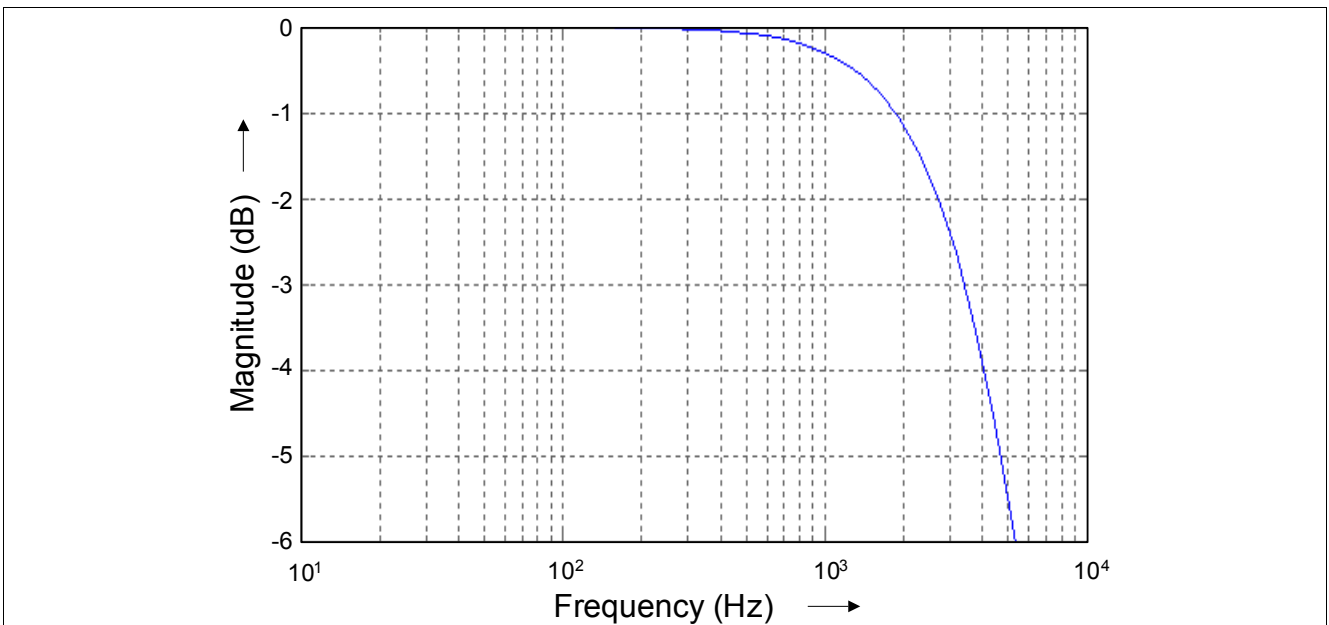

Figure 7-2 DAC Input Filter (Magnitude Plot)
7) More information, see **Figure 7-2 “DAC Input Filter (Magnitude Plot)” on Page 16**.